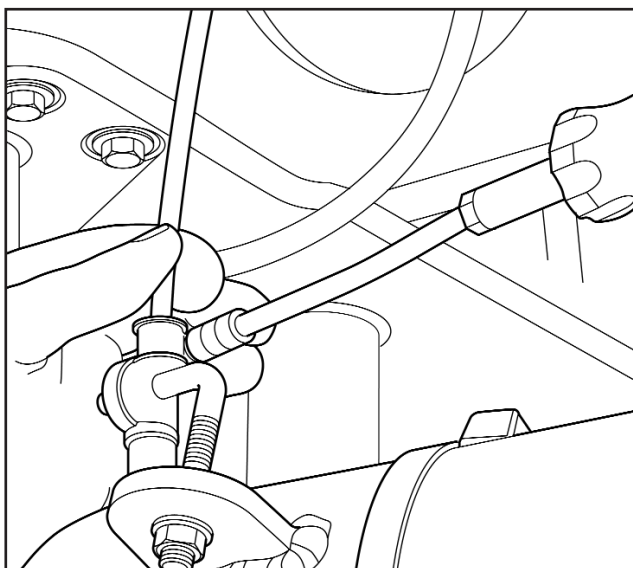

Fig 5.1
4. If the axle is used to locate the bottom arm, with the suspension height control valve, remove the eye coupling on the levelling valve arm from the pin on the axle (Figure 5.1).